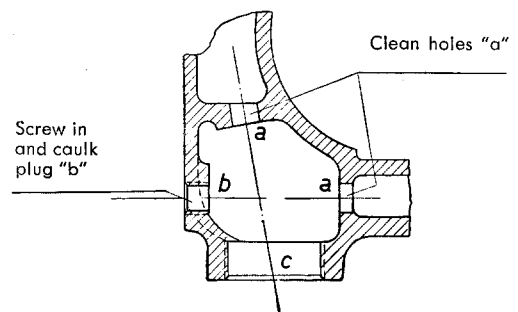

Figure 01-26/3
2. Remove the plug (b) and clean the holes (a) in the crankcase with a suitable punch (see Figure 01-26/3). Apply sealing compound to the plug (b), then screw in and caulk the plug.